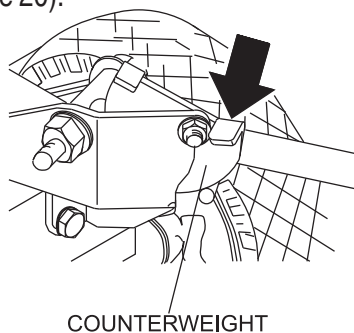
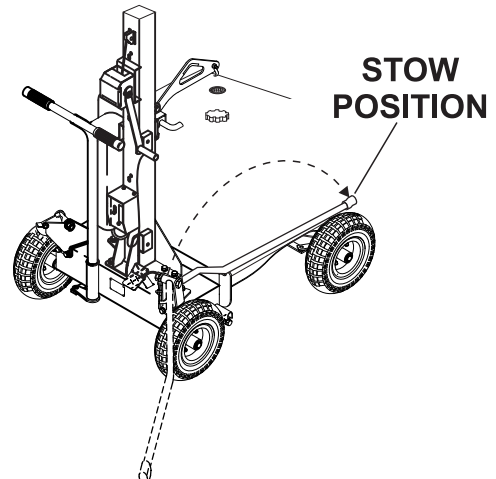

Figure 19. Outriggers (Released)
Figure 20. Outriggers (Stow Position)
7. To unlock outriggers, push downward on the counterweight lever indicated by arrow (Figure 19). Grab hold of outrigger, pull upward, push down and place in stow position (Figure 20).